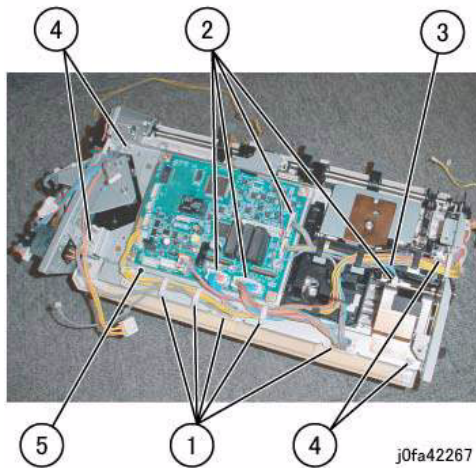

Figure 2 Removing the Bottom Plate
7. Remove the Bottom Plate (Figure 2):